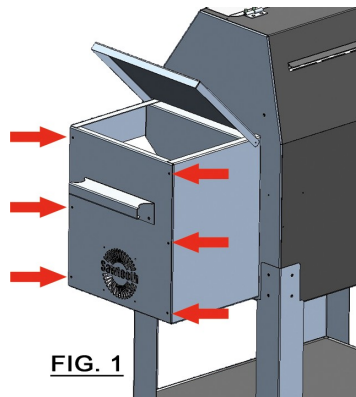

FIG. 1
- Remove pellet hopper side panel using 5/16" or 8mm socket or wrench - see Fig. 1